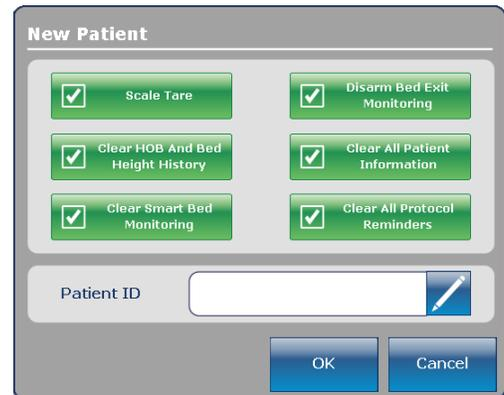

Figure 20: New patient
1. Tap the pencil (Figure 20 on page 39).
Display Patient ID: Displays the Patient ID. You can enter the Patient ID on the **New Patient** screen (Figure 20 on page 39).